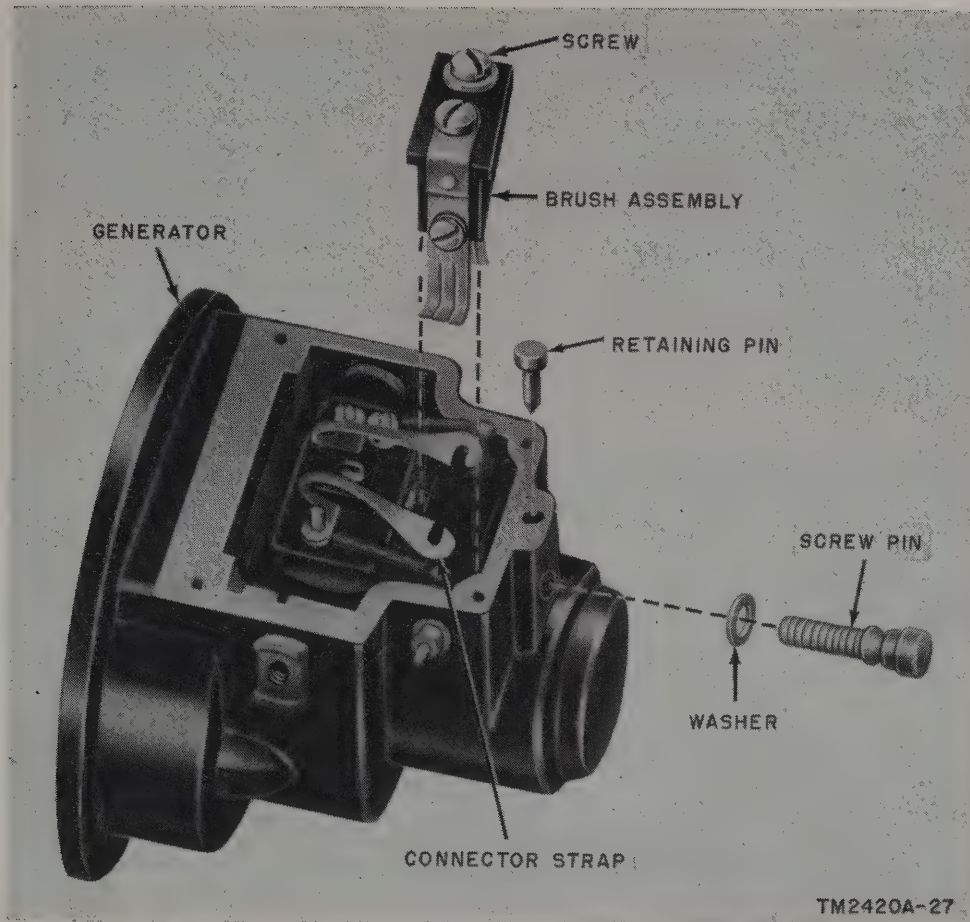

Figure 19. Generator with cover off, showing brush assembly.
- (2) Remove the generator (6) from the generator holder (26) by unscrewing the two roundhead screws (3) and removing the lockwashers (4).
- (3) Remove the two wires from the sides of the generator by unscrewing the two hexagonal terminal nuts (5). Tag each terminal with the color of the wire removed.
- (4) Remove the weight holder (24) and balance weight (25) by unscrewing the two roundhead screws (22) and lockwashers (23).
- (5) Remove the brush plate bracket (13) by unscrewing the two roundhead screws (9), lockwashers (8), and hexagonal nuts (7).
- (6) Remove the filter clip (12), insulating plate (14), and brush plate assembly (15) by unscrewing the two roundhead screws (17), flat washers (16), lockwashers (11), and hexagonal nuts (10).
- (7) Remove the generator cover plate (20) and filter (21) by unscrewing the four roundhead screws (18) and lockwashers (19) to expose the generator brush assembly.
- (8) Remove the generator brush assembly as follows:
- (a) Pull the retaining pin out and unscrew the screw pin (fig. 19).
- (9) Clean or replace the brush assembly. Clean the commutator segments and slots with clean, lint-free cloth. Use a sharp piece of wood to hold the cloth